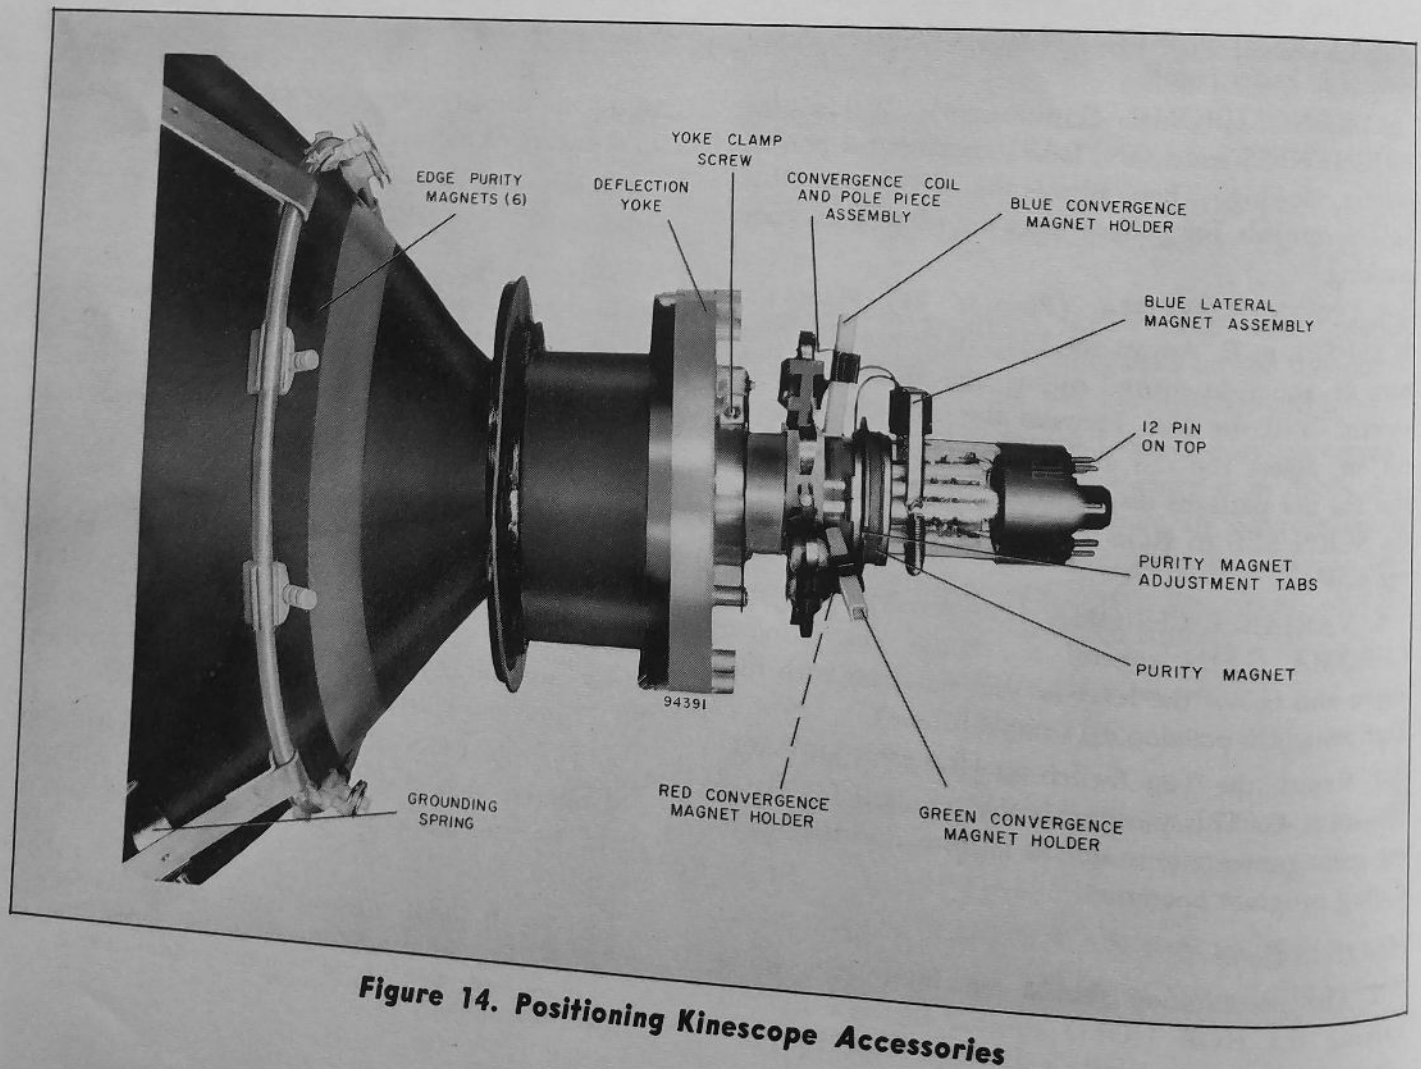

Figure 14. Positioning Kinescope Accessories
9. Rotate the purity magnet around the neck of the kinescope and, at the same time, vary the spacing between the tabs (Figure 14) on the purity magnet to obtain a uniform red screen area at the center of the kinescope.
4. Loosen the deflection yoke clamp screw (see Figure 14) and then remove all the accessories from the neck of the kinescope.
1. Place the deflection yoke on the kinescope neck with the yoke mounting clamp facing upward, and slide it toward the kinescope bell. (See Figure 14.)
4. Place the purity magnet over the kinescope neck with the small tabs facing the bell, and slide it forward until it touches the center convergence holder. (See Figure 14.) Then slide the purity magnet back approximately $\frac{1}{16}$ " and move the red tabs together.